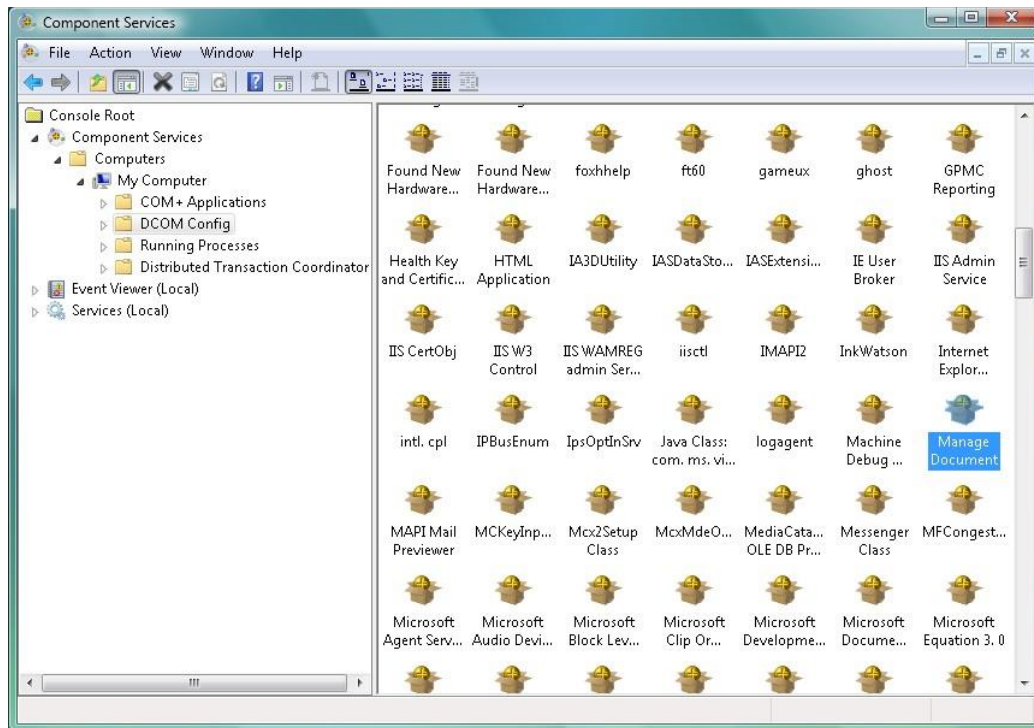

Figure 24: Component Services Window
- For Windows 7, type **dcomcnfg** in the Open field and click **OK**. For Windows 8.1/10, enter **dcomcnfg** in the Start/Search menu. The Component Services window is displayed as shown in Figure 24.